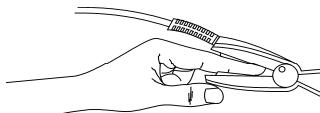

Fig.5-1 Placement of the probe
- Clip the patient finger to the rational position of the probe as the illustration as Fig.5-1.